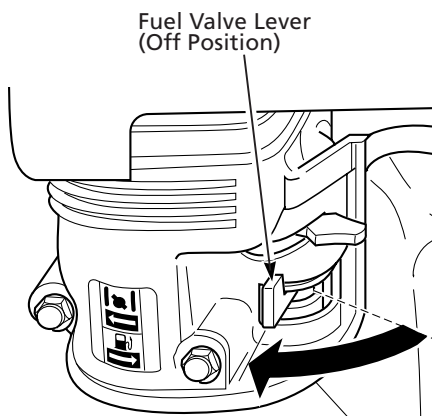

Figure 35 – Fuel Valve Lever Off (All Models except 3WY47)
4. Turn fuel valve lever off. Do this by moving valve lever fully to the left (See Figure 35).